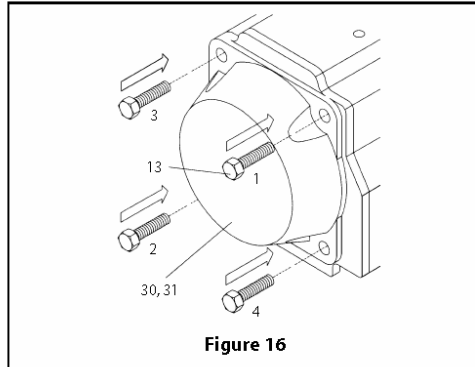

Figure 16
B. Apply silicone grease to the end-cap o-ring seals, using the recommended o-ring-area grease listed in (Table 2). Fit the end-cap o-ring seals (14) into the groove in each end cap (30, 31).
C. Fit the end caps (30, 31) onto the body (50), verifying that the o-ring seals (14) remain in the grooves.
D. Insert all end-cap screws (13) and hand tighten. Complete tightening by following the sequence indicated in (Figure 16).